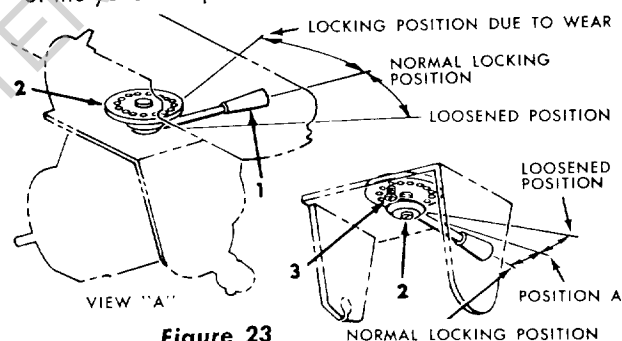

Figure 23
The normal locking position of the yoke clamp handle (Item 1, View A, figure 23) is midway between the two sides of the yoke.
2. Set yoke clamp handle to Position A, Figure 23. (Midway.)
4. With off-set screw driver turn slotted end of the yoke clamp (Item 2) counterclockwise until a slight snugness of the yoke clamp handle is felt at Position A, Figure 23.